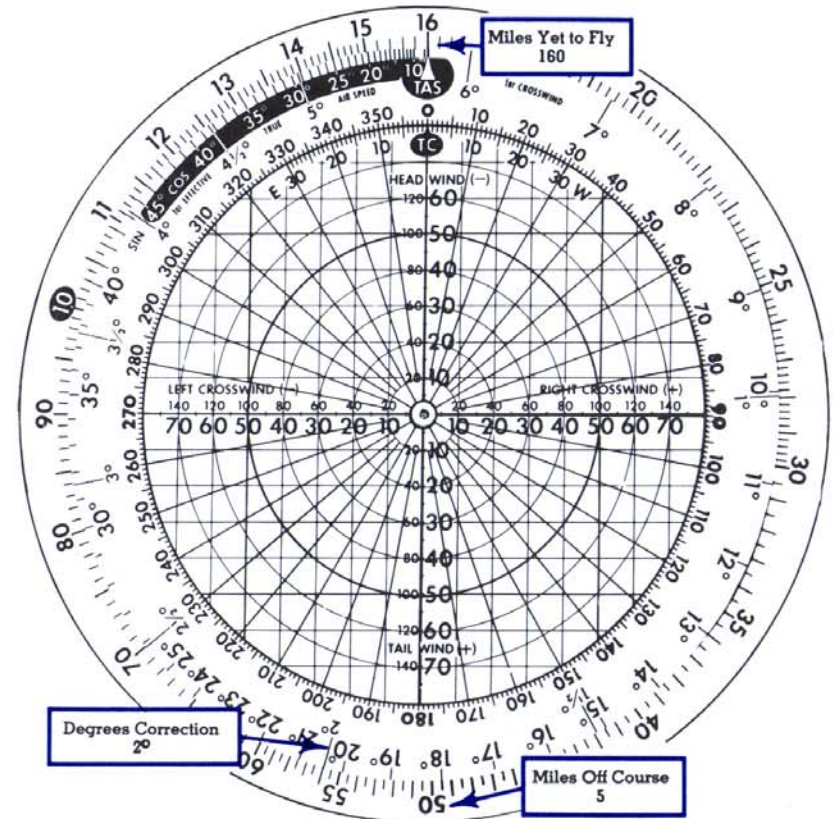

Fig. 34
**Solution:** (See Fig. 34)
- Locate 5 miles (50) on the outer scale and opposite it read  $7^{\circ}$ . This is the number of degrees you must correct your heading in order to parallel your intended course.